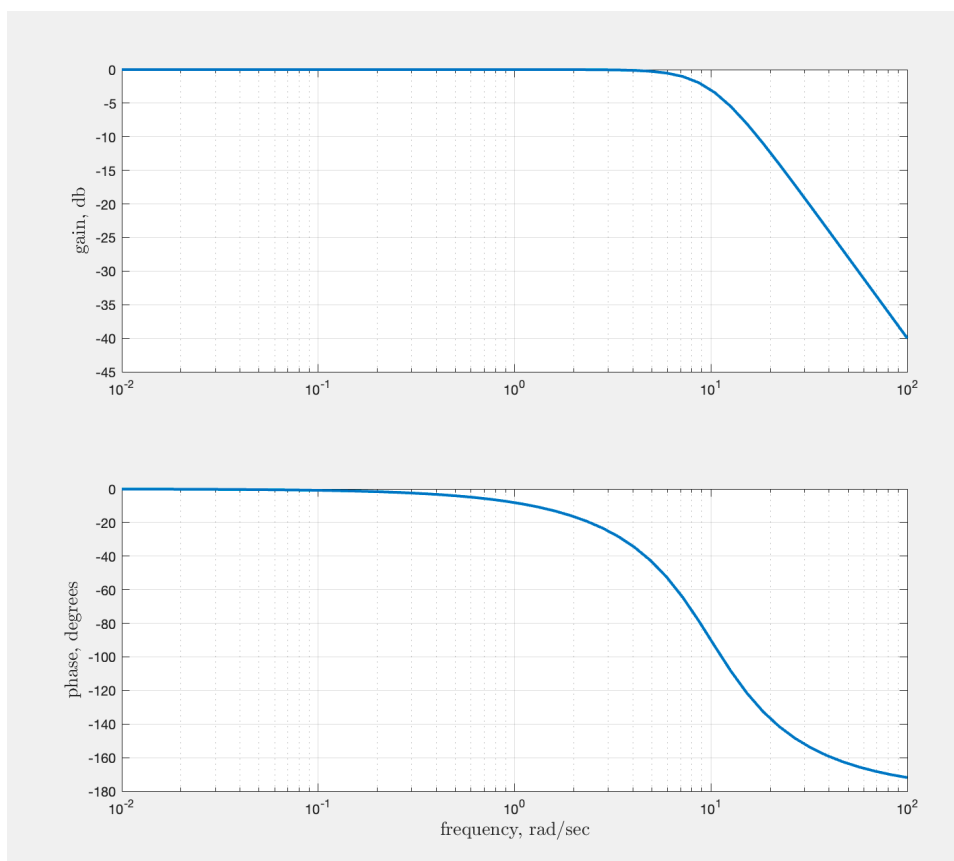

Figure 3: Second Order Butterworth Anti-aliasing Filter
- (b) Suppose a second-order Butterworth anti-aliasing filter has the frequency response illustrated in figure 3. A noisy signal  $u(t) = \sin(4.8\pi t) + \sin(20\pi t)$  is passed through the filter and then sampled at a rate of 5 Hz. Will the sampled signal be aliased? Carefully explain why or why not.
It is clear from the frequency response, figure 3, that the 10 Hz ( $20\pi$  radians/second) component of the signal will be attenuated by at least  $-30$  dB which, for engineering purposes, means we are sampling only the 2.4 Hz ( $4.8\pi$  radians/second) signal. Since  $5 \text{ Hz} > 2 \times 2.4 \text{ Hz}$ , the Shannon sampling theorem is satisfied and the sampled signal will not be aliased (it will, however, be attenuated and phase shifted).